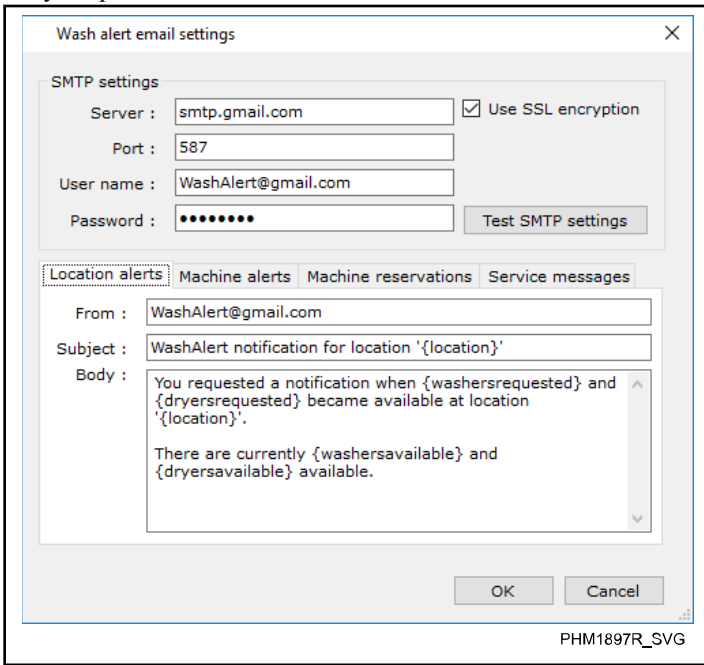

Figure 66
3. Fill in the SMTP settings for your email provider. Refer to *Figure 66* for an example using a gmail account to send emails. Port and other settings might change depending on your provider.